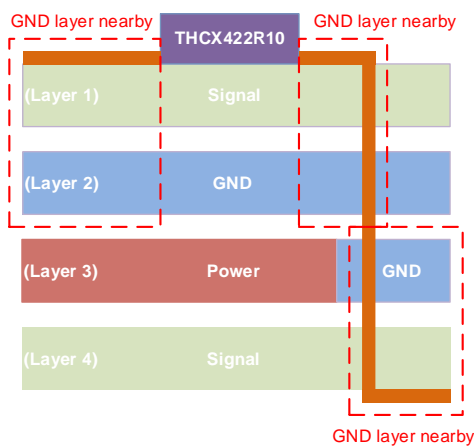

Figure 1. Keep High-speed line next to GND layer
- Keep differential traces on the layer next to the ground plane, refer to Figure 1.